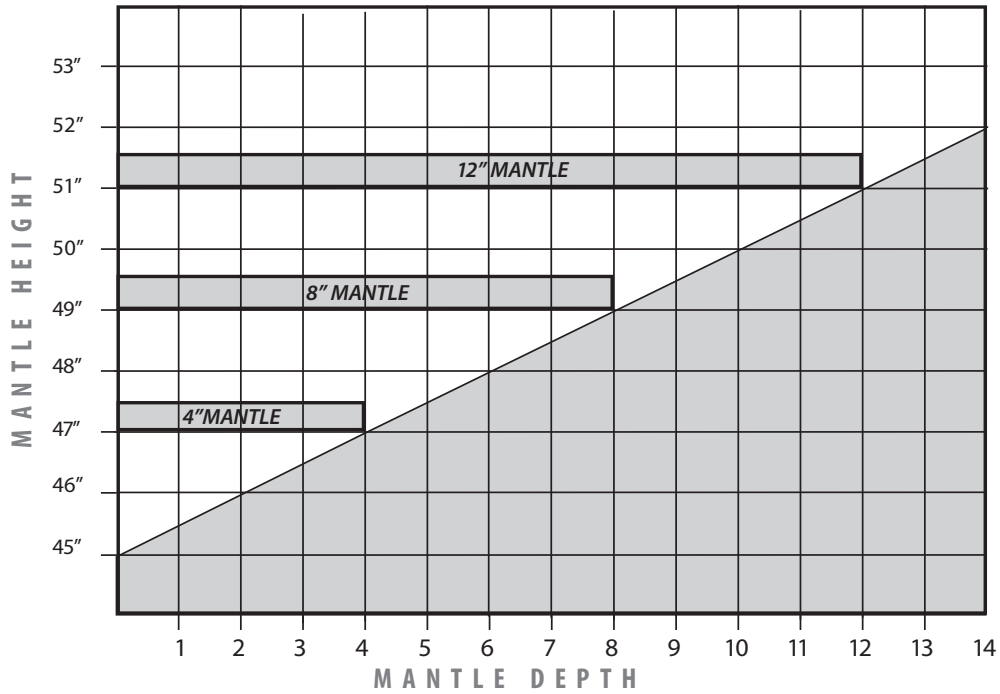
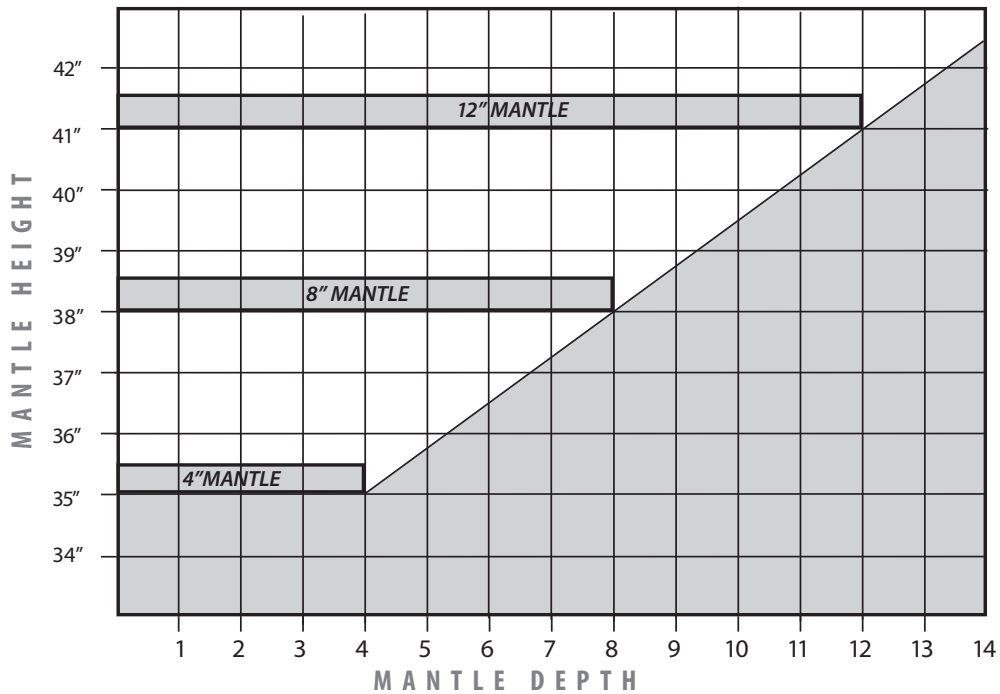
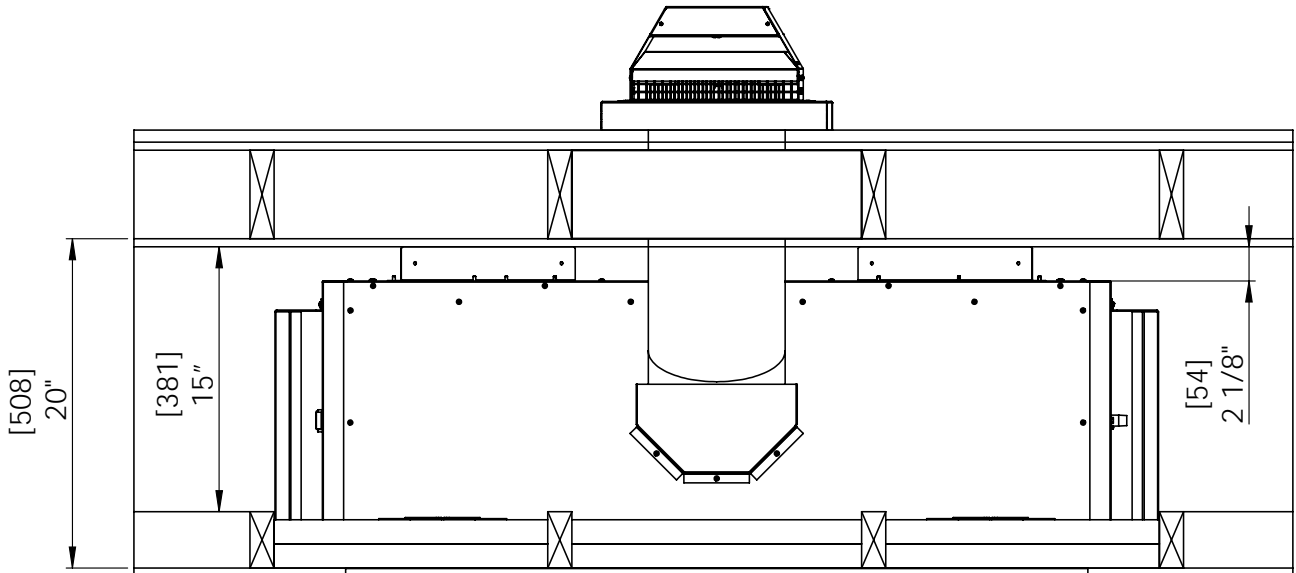

Figure 41: Minimum Mantel Height
Figure 42: Minimum Mantel Height - CSS Activated
Figure 47: Dimensions for a Horizontal Installation
Refer to Figure 41 & Figure 42 for a combustible mantel installation, measurement is from bottom of the unit to the bottom of the mantel. The mantel height is drastically reduced when the CSS is activated. Refer to Figure 42 if the CSS is activated.
Figure 47 shows a horizontal vent installation with minimum clearances. The horizontal vent shield must be used when the minimum vent configuration is used. If more than 24" of vertical rise is used the shield should not be installed. The vent to ceiling clearance must be maintained no matter the additional vertical vent height; see Figure 41 and Figure 42. A minimum of 1" clearance on all sides of the vent pipe must be maintained at all time unless specifically stated.
**MANTLE:** It is not necessary to install a mantle, but if one is desired the guidelines as shown in Figure 41. The minimum clearance from the side of a mantle to wall is 4".